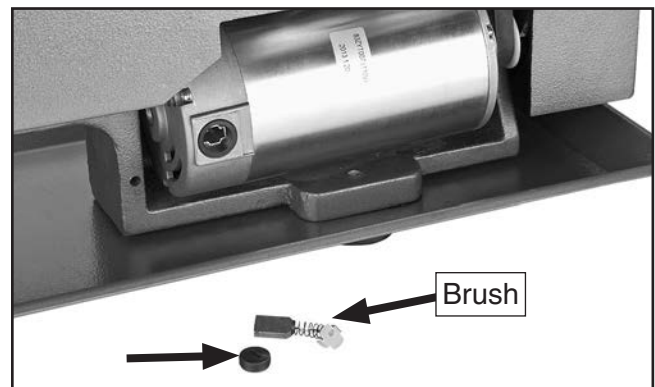

Figure 87. Rear motor brush components removed.
3. Unscrew rear brush cap and carefully remove brush from motor (see **Figure 87**).